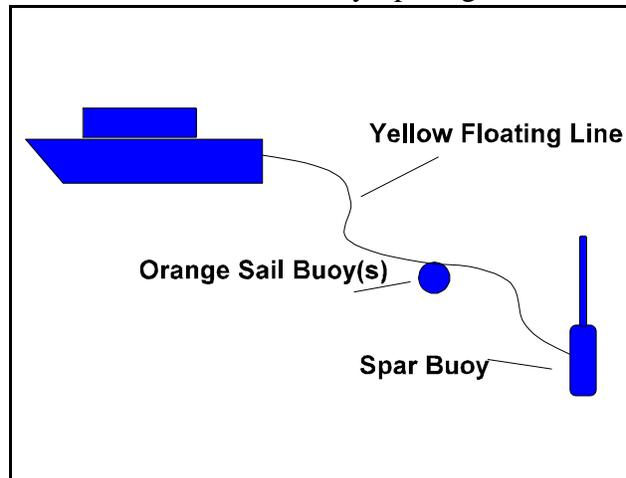

Figure 2. Buoy tether
- h) Secure the buoy tether line to the ship and clip the other end to the buoy's wire-rope bridle. Note that the tether line should include one or more 'sail buoys' per figure 2.